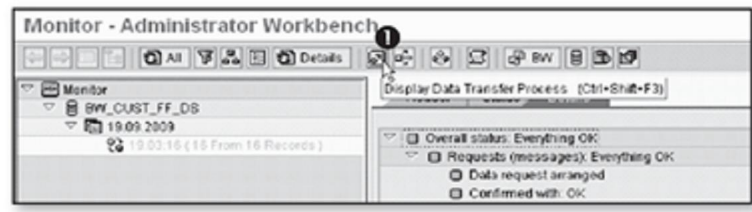

Figure 7.43 Starting DTP
At this point, you have executed the InfoPackage and loaded the master data from the flat file to the PSA. Now you need to execute the DTP. The job of DTP is to read the data from PSA and pass it to the data target (InfoObject BW_CUST), transforming it in the process. You can directly jump to the associated DTP from the monitor screen by clicking the Display DTP icon shown in ❶ of Figure 7.43.